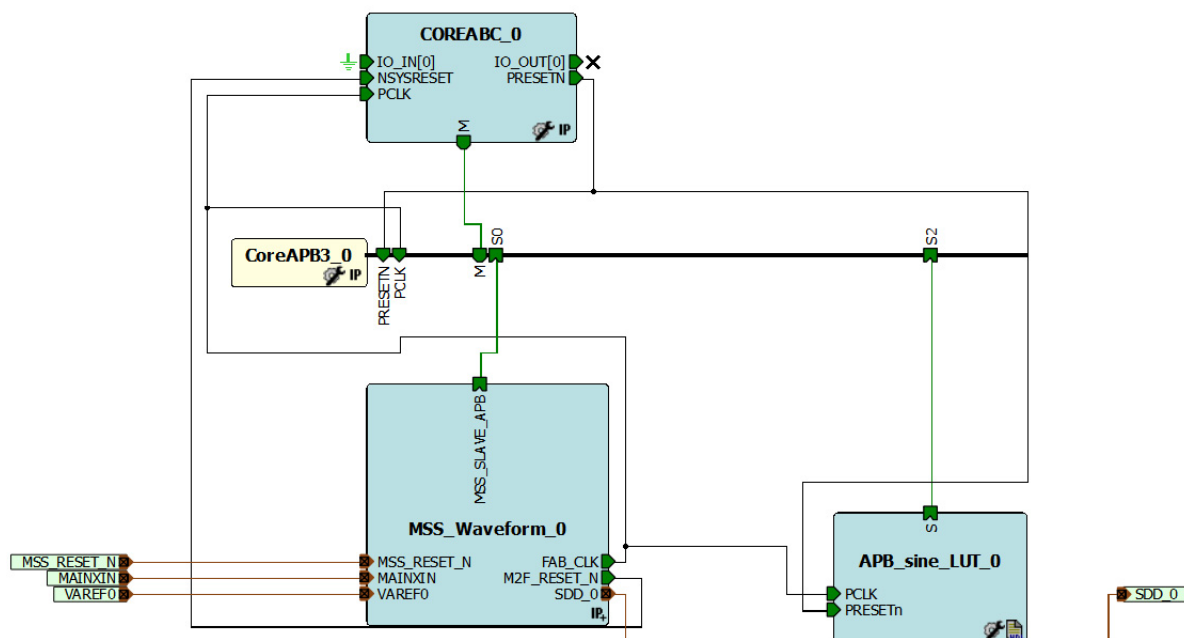

Figure 2 • Top-Level View of Logic in the Fabric as Master
Refer to the CoreABC Handbook for more information on the set of instructions supported by CoreABC. The FIC is used to connect the user logic in the fabric to the MSS. In this design example, the FIC is configured in slave mode. The CoreAPB3 bus is used to connect CoreABC, signal LUT/ROM, and the MSS, as shown in Figure 2 on page 5.
7. Interconnect the instantiated components in the TOP, as shown in Figure 2 on page 5. Check the design rules for errors and generate the design.
| Revision 1 (January 2012) | Added Figure 2 (SAR 35789). | 5 |